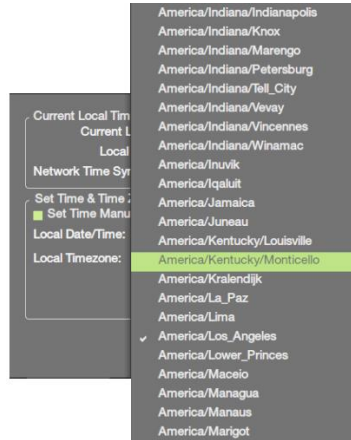

Figure 31: The Clock Set Menu
1. Click on the **Local Timezone** drop-down and select the location you want. Figure 31. The *Local Date/Time* field changes to the date and time for the location you selected.